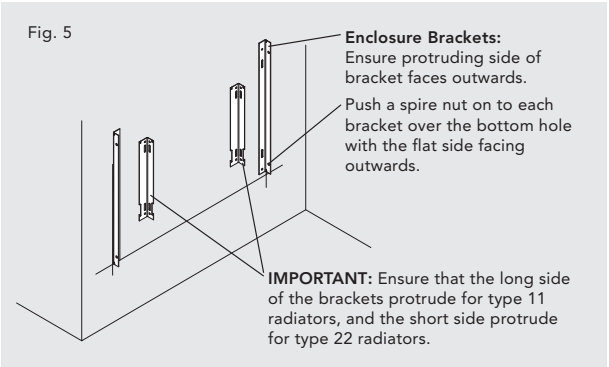

Fig. 5
- Secure the brackets to the wall. Fit the plastic inserts to the emitter brackets and the spire nuts to the enclosure brackets (see fig. 5).